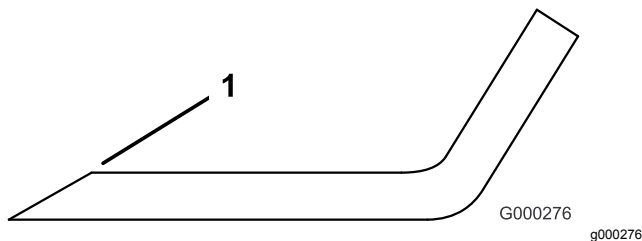

Figure 114
3. Examine the cutting edges of all of the blades and sharpen the cutting edges if they are dull or nicked (Figure 114).
Note: Sharpen only the top of the cutting edge and maintain the original cutting angle to ensure sharpness (Figure 114). The blade remains balanced if the same amount of metal is removed from both cutting edges.